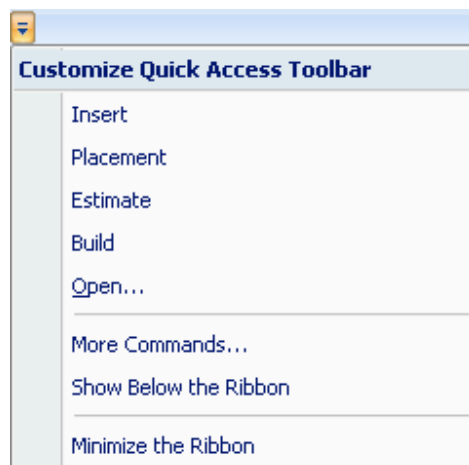

Figure 5-80 *Customize Quick Access Toolbar* menu
- ☐ From the *Customize Quick Access Toolbar* menu (see Figure 5-80 on the previous page), select **More Commands**.